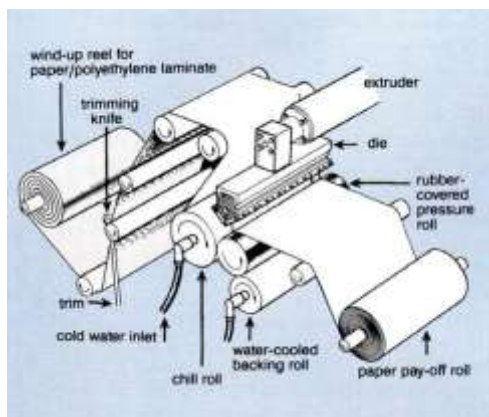

Figure 2. Typical extrusion coating line for paper/polyethylene laminates.
The coated substrate passes between a series of counter-rotating rolls to press the coating against the substrate achieving full contact and adhesion. Figure 2, shows an example of this process with paper/polyethylene coating. (4).
Eliminado: Figure 2